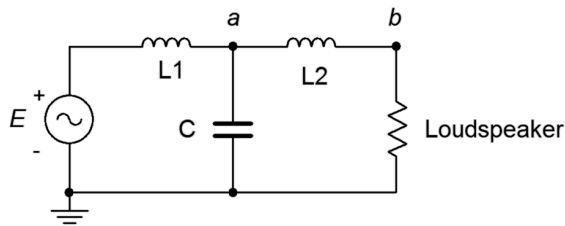

Figure 4.25
52. The concept of a loudspeaker crossover network was presented in Part 2 Series RLC Circuits. By adding more components, it is possible to increase the rate of attenuation so that the undesired signals are further reduced in amplitude. The circuits of Figure 4.25 and 4.26 show crossovers for the woofer and tweeter, respectively. Assuming standard $8\ \Omega$ loudspeakers, use an AC frequency domain simulation to determine the crossover frequency of each network. Also, compare the curves at node *a* to those at node *b*. Finally, compare the attenuation slopes to those generated by the simpler crossover network presented at the end of Part 2. Component values for the woofer: $L1 = 760\ \mu\text{H}$, $L2 = 250\ \mu\text{H}$, $C = 10.6\ \mu\text{F}$. Component values for the tweeter: $C1 = 5.3\ \mu\text{F}$, $C2 = 16\ \mu\text{F}$, $L = 380\ \mu\text{H}$.